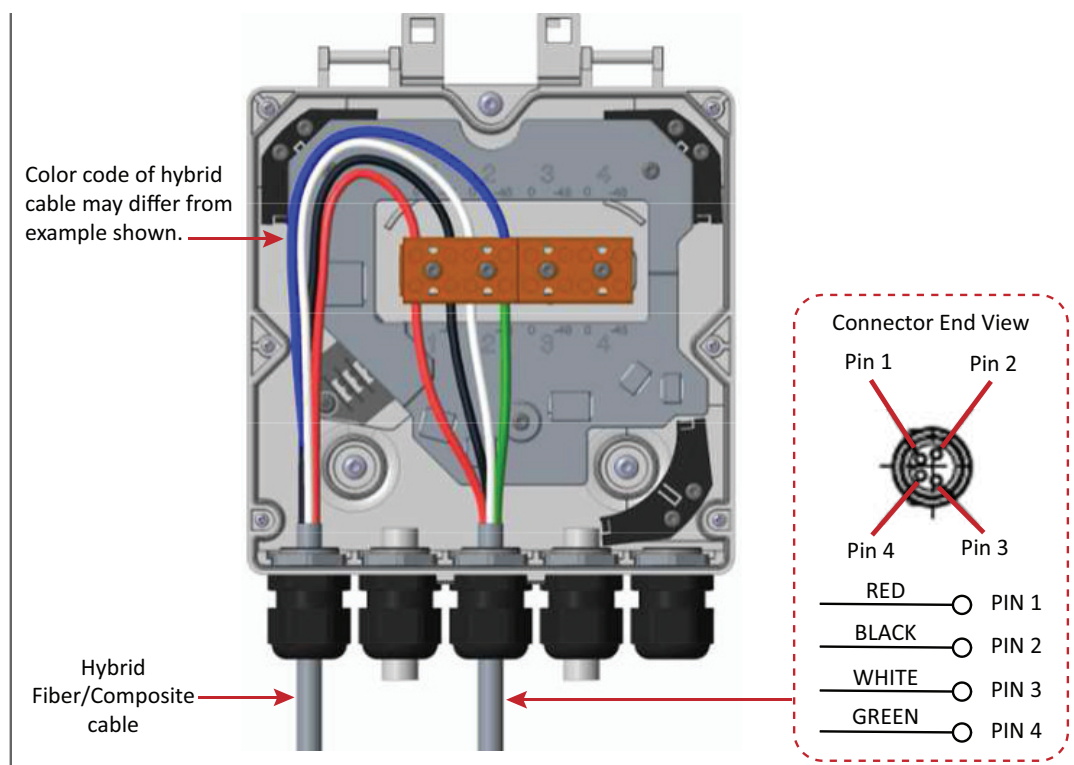

Figure 12. Wiring a Hybrid Fiber Splice Box for 4-Wire Power with LPS
- 1 Refer to Table 13 and Figure 12 to wire a Hybrid Fiber Splice Box for 4-Wire power with Limited Power Source (LPS).